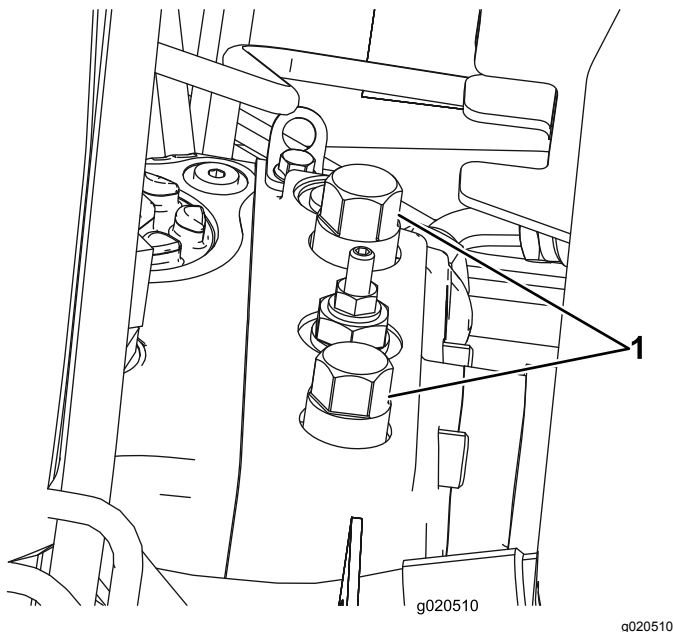

Figure 16
1. Open the hood and locate the bypass valves (Figure 16) on the top of pump, behind the battery/storage boxes.